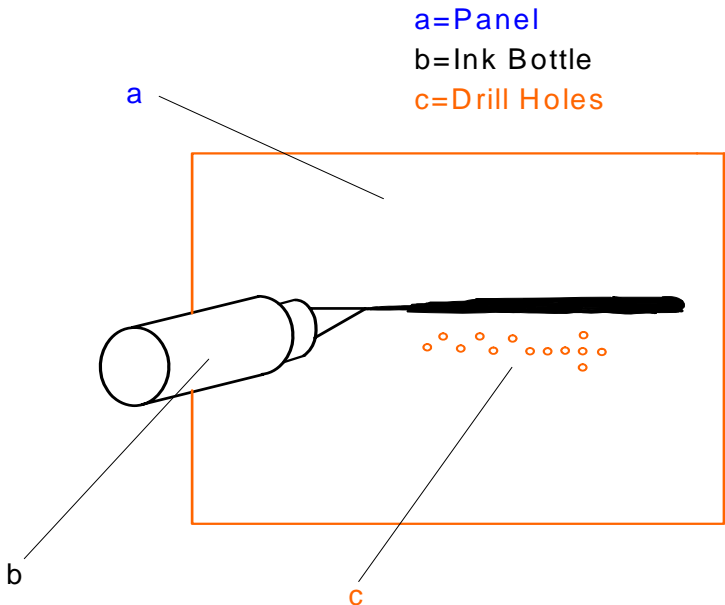

Figure 6: Ink application.
4. Shake the bottle of conductive ink vigorously. Liberally apply a line of ink ½” from where the holes begin. See Figure 6. Squeegee the conductive ink into the holes with the squeegee almost laying flat against the circuit board.